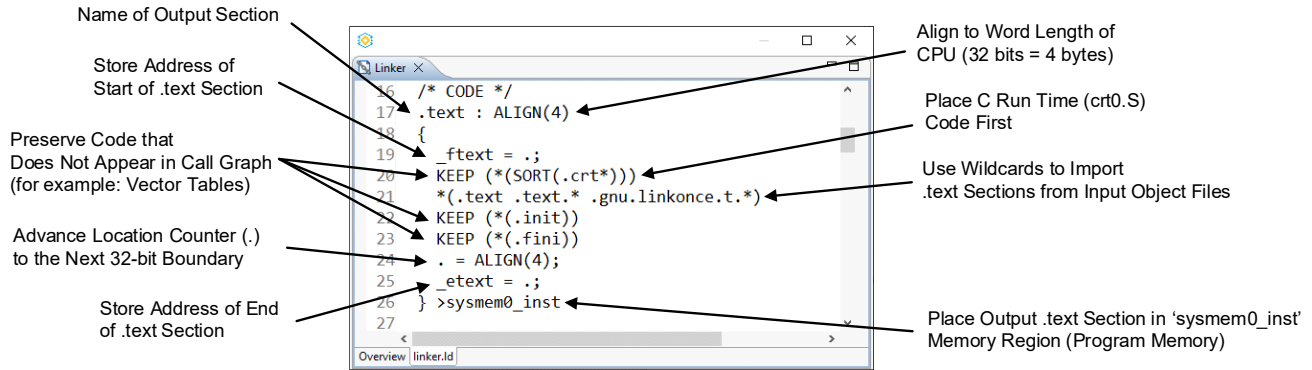

Figure 4.14. Autogenerated Linker Script .text Section
Figure 4.14 shows the definition for the `.text` output section.
Writing to the location counter built-in variable, ‘.’, advances the location of the next placement. Figure 4.14 shows an example where ALIGN(4) is assigned to ‘.’. This assigned variable advances the location counter to the next 32-bit boundary.